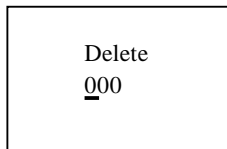

Fig. 4.16 Delete Function Block
1. Press OK when the cursor points at “Delete FB” in the Editor Frame, that’s, “>Delete FB”, then the deleting status appears, as shown in Fig. 4.16.